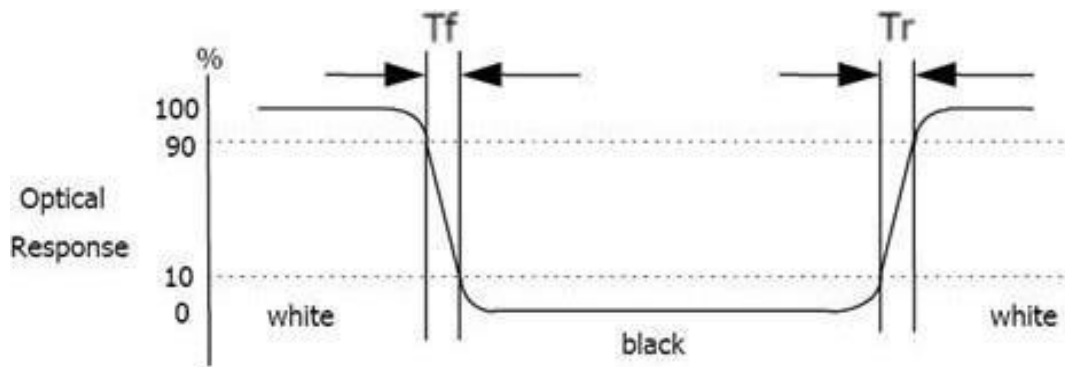

Figure 10: Response Time Testing
5. The electro-optical response time measurements shall be made as FIG. 10 by switching the “data” input signal ON and OFF. The times needed for the luminance to change from 10% to 90% is Tr and 90% to 10% is Tf.